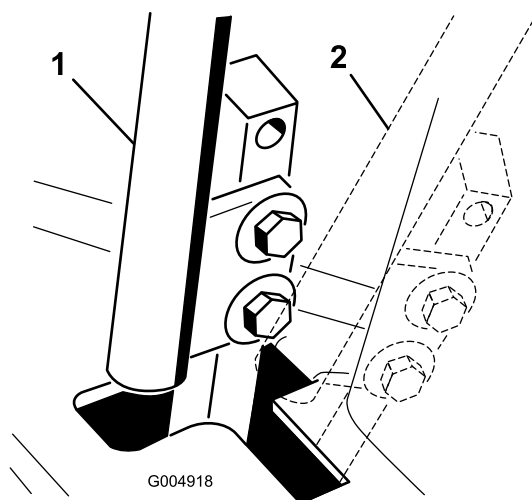

Figure 62
4. Move one of the levers to the neutral position but **not locked** (Figure 62).
6. Check where the control lever is relative to notch in console (Figure 62). It should be centered allowing lever to pivot outward to the neutral lock position.